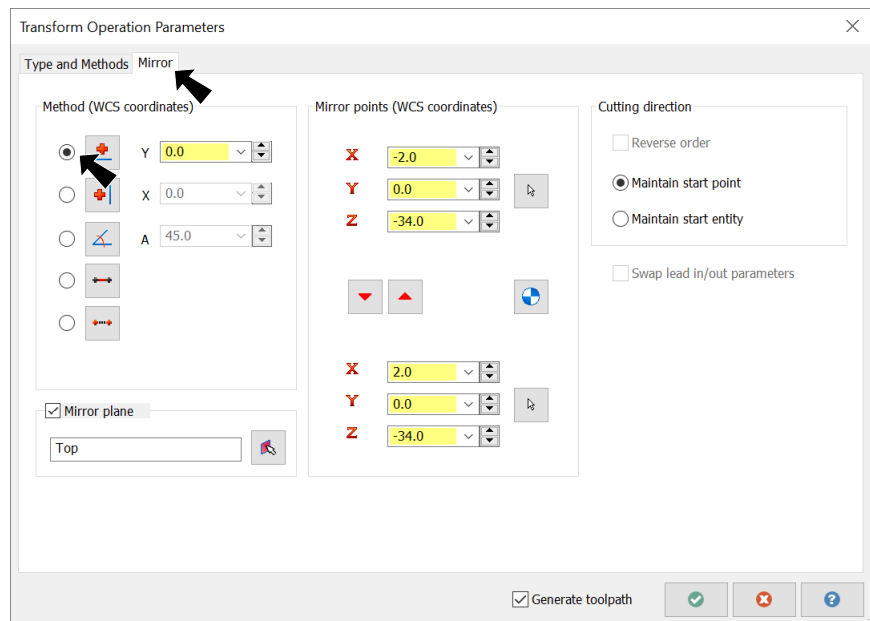

Fig. 28
Step 3. Click the **Mirror tab** at top of dialog box, **Fig. 28.**